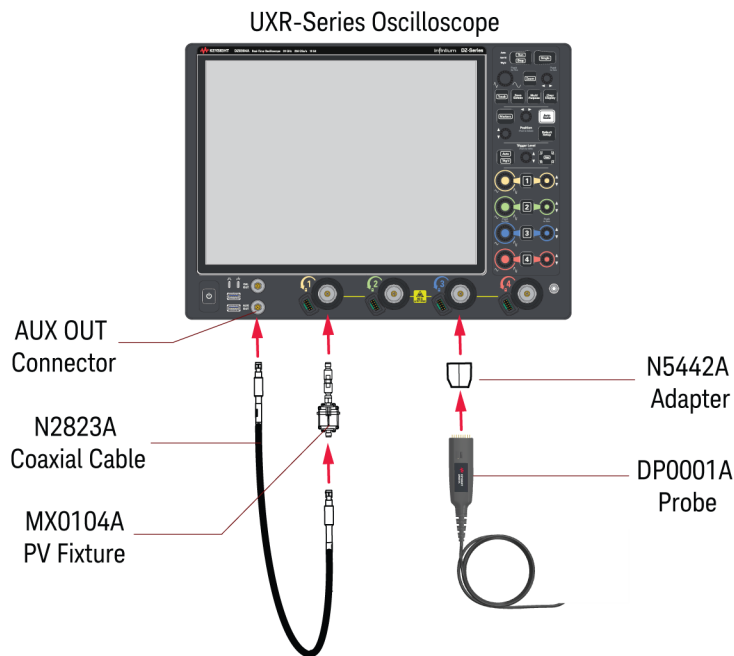

Figure 14 Bandwidth Performance Verification Sample Setup for DP0001A
- 2 Make connections to any two input channels of the oscilloscope as described in the following steps. A typical connection setup is illustrated in Figure 14.